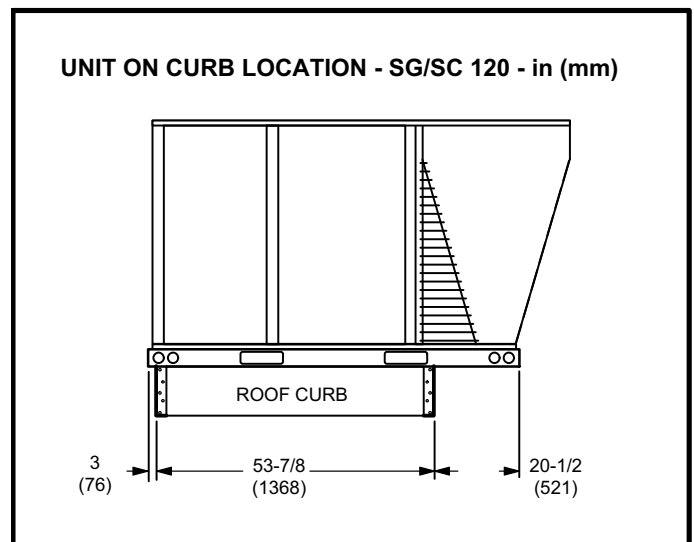

FIGURE 2
- 6- 120 units will overhang the roof mounting frame as shown in figure 2.